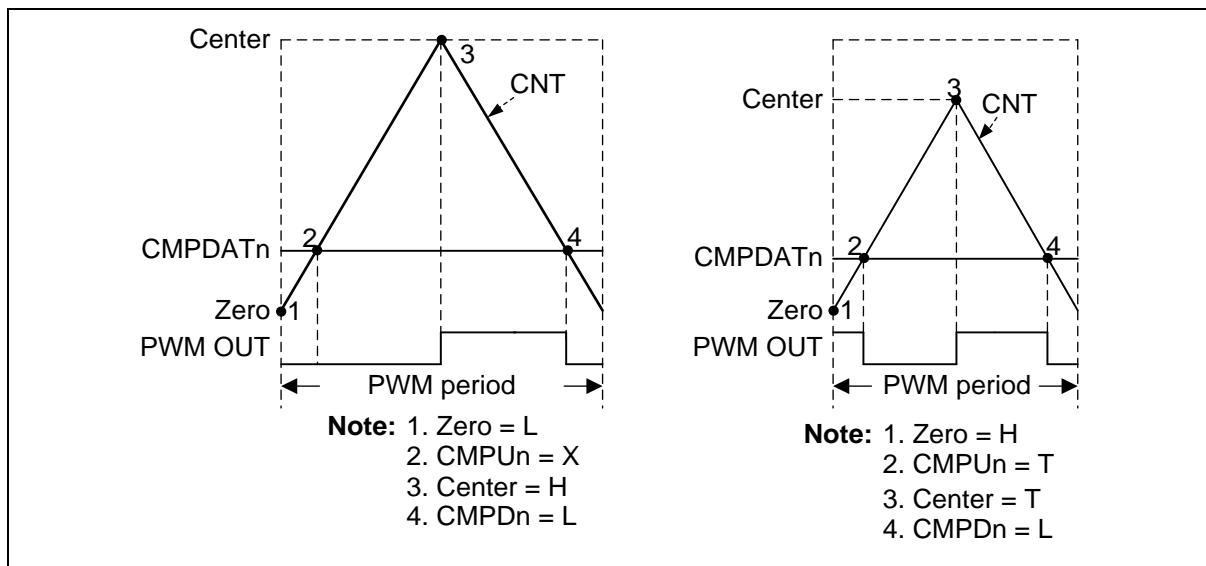

Figure 6.12-14 BPWM Pulse Generation (Left: Asymmetric Pulse, Right: Variety Pulse)
Each event point can decide BPWM waveform to do nothing (X), set Low (L), set High (H) or toggle (T) by setting BPWM_WGCTL0 and BPWM_WGCTL1 registers. Using these points can easily generate asymmetric BPWM pulse or variant waveform as shown in Figure 6.12-14. In the figure, there is a comparator n to generate BPWM pulse, whrer n denotes channel number 0 to 5. CMPU denotes CNT is equal to CMPDAT when counting up, and CMPD denotes CNT is equal to CMPDAT when counting down.